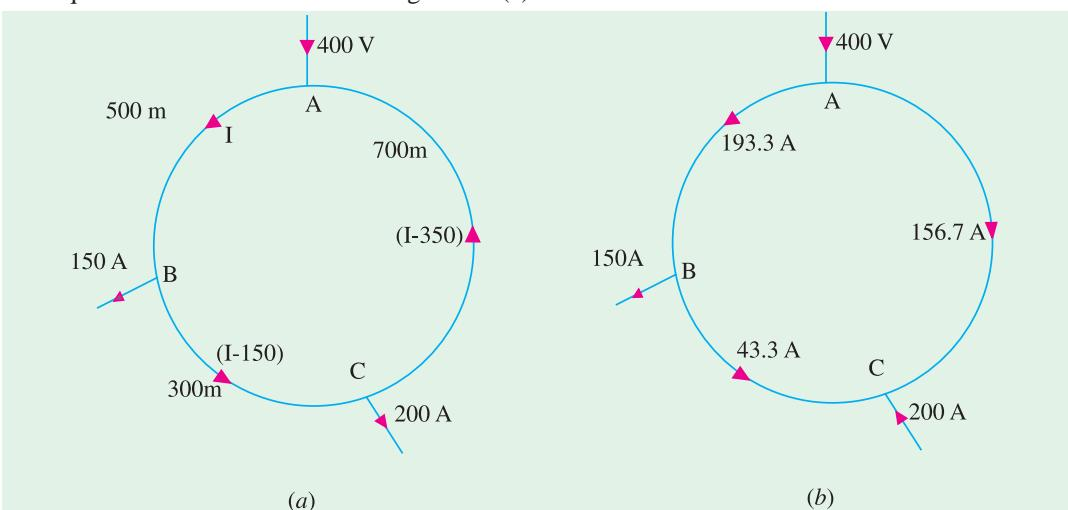

Fig. 40.30
**Solution.** Let us assume a current of  $I$  in section AB, then find the total drop round the ring main and equate it to zero. As seen from Fig. 40.30 (a).
The current distribution becomes as shown in Fig. 40.30 (b) from where it is seen that C is the point of minimum potential.
The current in section BC is as shown in Fig. 40.30 (b).